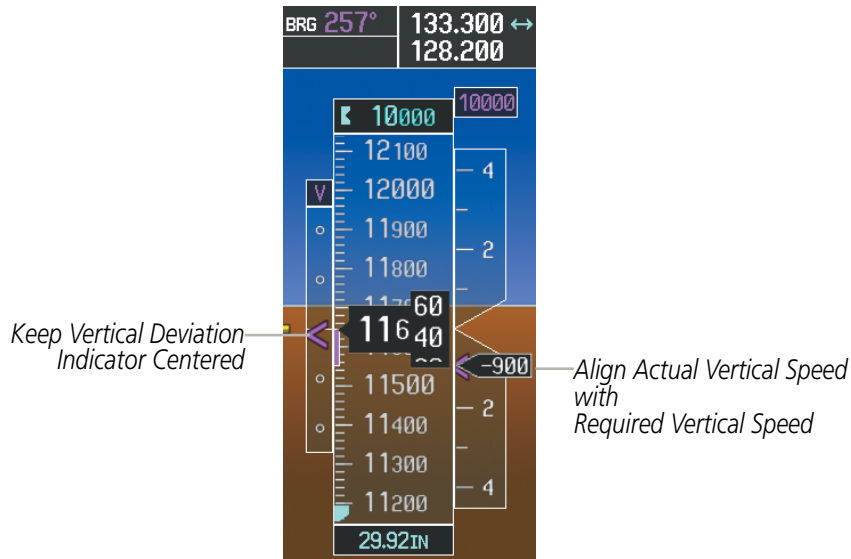

Figure 5-142 VDI & RVSI Showing Established Descent
- 16) Upon reaching TOD, a descent vertical speed is established by placing the VSI pointer in line with the RVSI as shown in Figure 5-142.